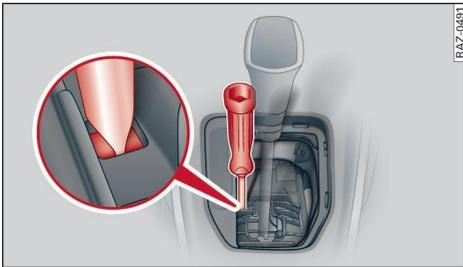

Fig. 76 Manual release mechanism (bottom left)
- ▶ To loosen the selector lever boot, carefully insert the flat-blade side of the screwdriver into the opening at the side of the boot ⇒ *page 86, Fig. 76*.